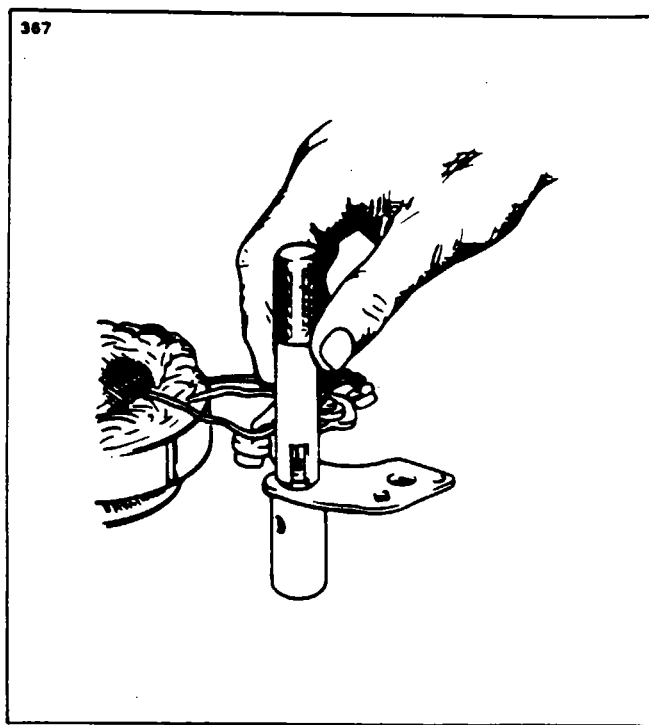

Figure 24-10. Installation of Rectifier
2. Carefully install the rectifiers in the slip ring end head or rectifier mounting plate by supporting the unit and using the special tools illustrated in Figure 24-10.